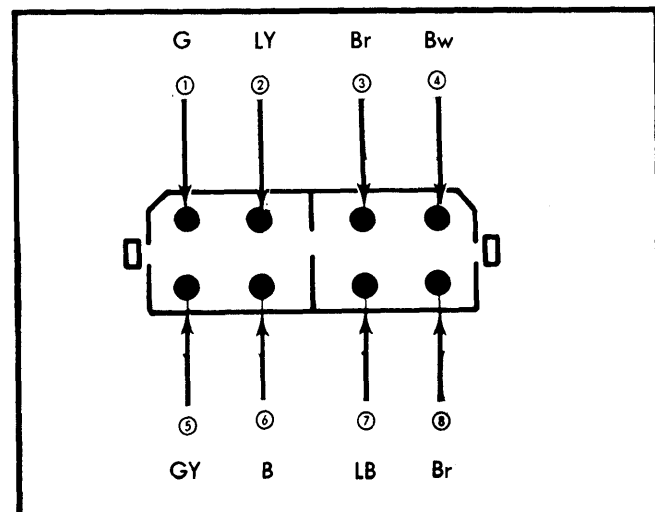

Fig. 2 Choke Switch Terminal Locations
- 2) Continuity should exist between terminals No. 3 and No. 7 when choke knob is pulled out about 0.4" (10 mm). Continuity should exist between terminals No. 6 and No. 8 when choke knob is at any position. See Fig. 2 for terminal locations.